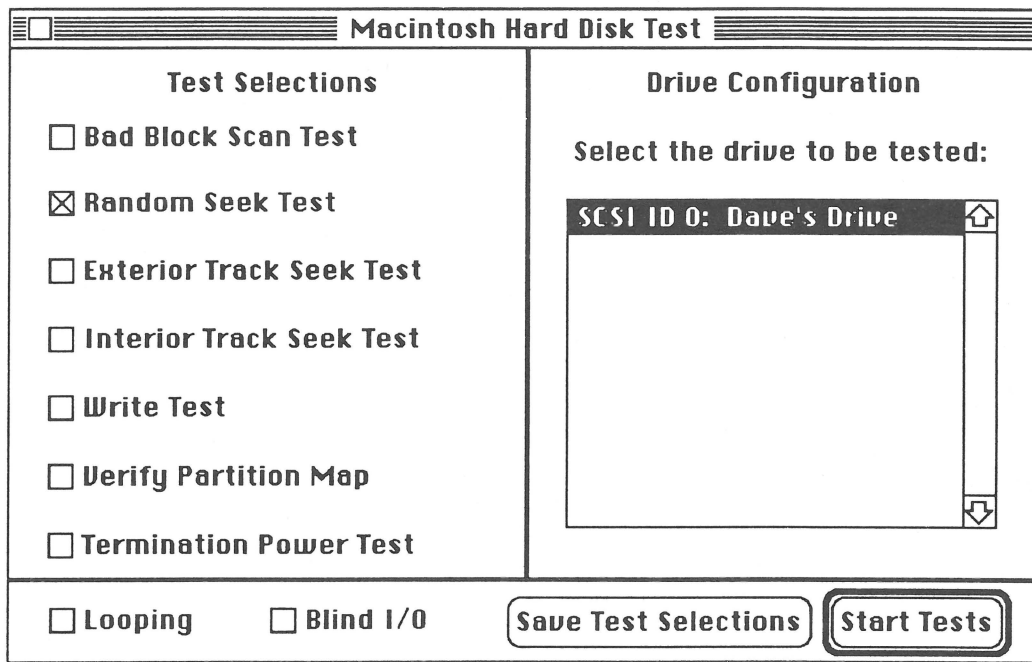

FIGURE 1
5. Double-click on the *Macintosh Hard Disk Test* icon. A window that includes a Test Selections subwindow on the left and a Drive Configuration subwindow on the right appears (Figure 1).